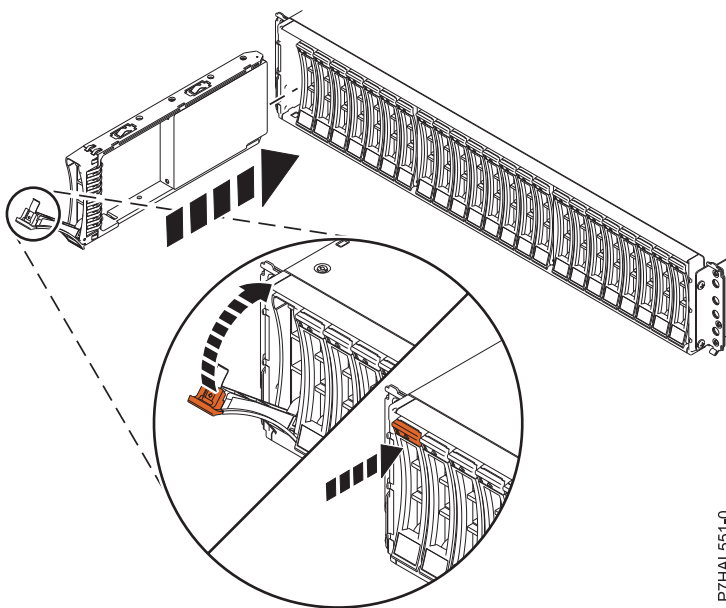

Figure 37. Replacing a disk drive in the disk drive enclosure
3. With the handle in the unlocked position, as shown in Figure 37, support the bottom of the drive as you align it with the guide rails in the expansion unit.
8. Lock the drive by rotating the bay handle (A) in the direction that is shown in Figure 37.